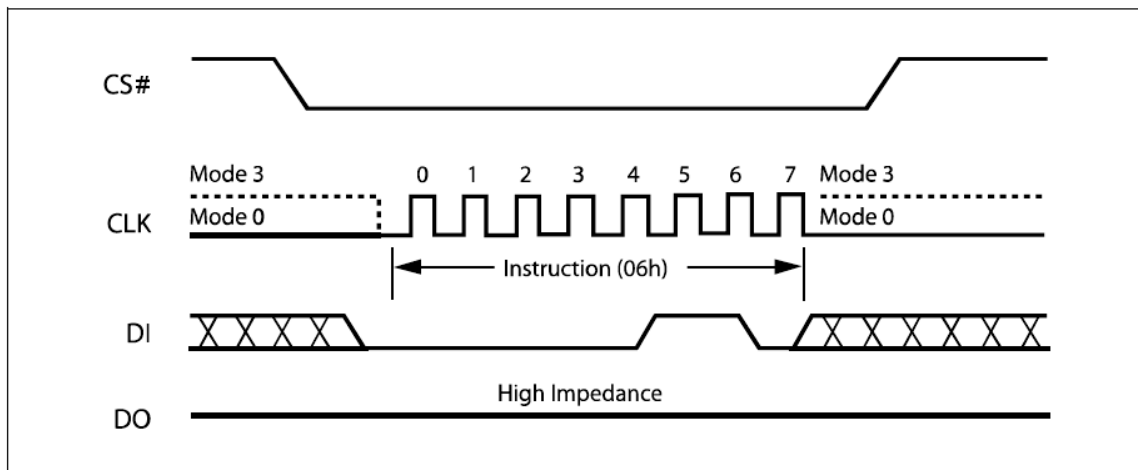

Figure 6. Write Enable Instruction Sequence Diagram
The Write Enable (WREN) instruction (Figure 6) sets the Write Enable Latch (WEL) bit. The Write Enable Latch (WEL) bit must be set prior to every Page Program (PP), Sector Erase (SE), Block Erase (BE), Chip Erase (CE) and Write Status Register (WRSR) instruction.